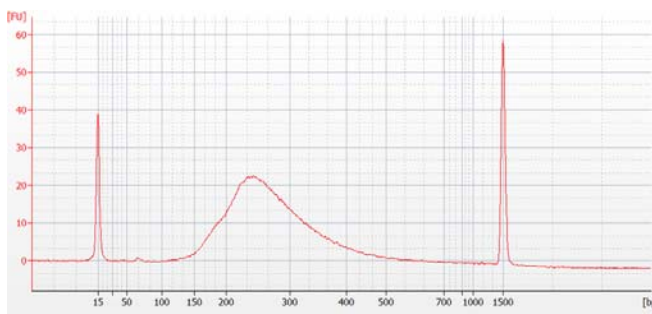

Figure 4 Analysis of adapter-ligated DNA using a DNA 1000 Bioanalyzer assay.
- A sample electropherogram is shown in Figure 4.